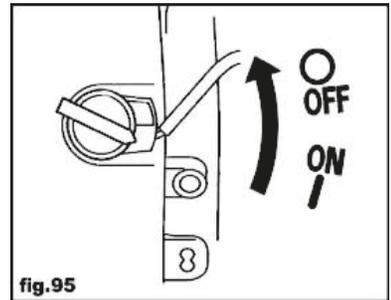

fig.95
-Switch power to "on" for five seconds, then turn the power to "off" (fig.95)